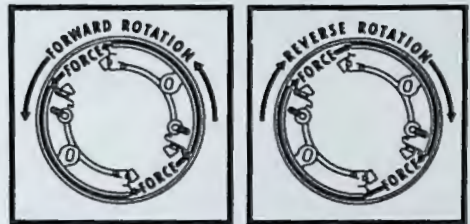
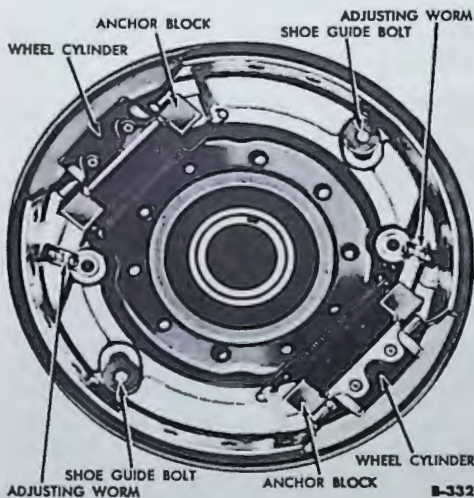

Fig. 1—Schematic View Showing Direction of Forces Upon Brake Application
Fig. 2—Brake Assembly
(c) ALL ADJUSTABLE DOUBLE ANCHOR BRAKES. The 1939-1942 Ford and Mercury passenger cars and the 1939-1947 Trucks are equipped with adjustable double anchor brakes, with the exception of the 1946-1947 Light Duty truck and the One-Ton truck front brakes. Adjust the cams until both the forward and reverse shoes are tight against the drum. Loosen the anchor lock nut (fig. 1), and see that the locating marks are toward each other. Turn both anchor bolts in the direction shown in figure 1 until the shoes touch the drum. Make sure that the anchor bolts are held as the nuts are tightened so that the setting will not be changed. Back off the cams until the wheel turns freely by hand. If the wheel does not turn freely, repeat the operation more carefully. Repeat the same procedure as outlined above at the other three wheels.
(4) **HYDRAULIC BRAKES, 1939-1947 LINCOLN.** These are single anchor brakes. Remove all four wheels. Remove the adjustment hole cover from each brake plate. Make sure that the drums are cool. Loosen the anchor bolt lock nut (fig. 2) one turn. Insert a 0.010 inch thickness gauge through the slot in the drum, and tap the anchor bolt up or down,
The brake is a "floating shoe" type which has two identical shoes (fig. 2) arranged on the backing plate so that their toes are diagonally opposite. Two double-end wheel cylinders are arranged so that one cylinder is mounted between each shoe toe and heel. An equal amount of hydraulic force is thus applied at each end of each shoe. The wheel cylinders are not bolted directly to the backing plate; instead, they are held in position by shoe anchor blocks. The anchor blocks are bolted to the backing plate. Each anchor block serves as a shoe stop and shoe centering point, and provides the fulcrum around which the shoe pivots when the brake is applied (fig. 1).